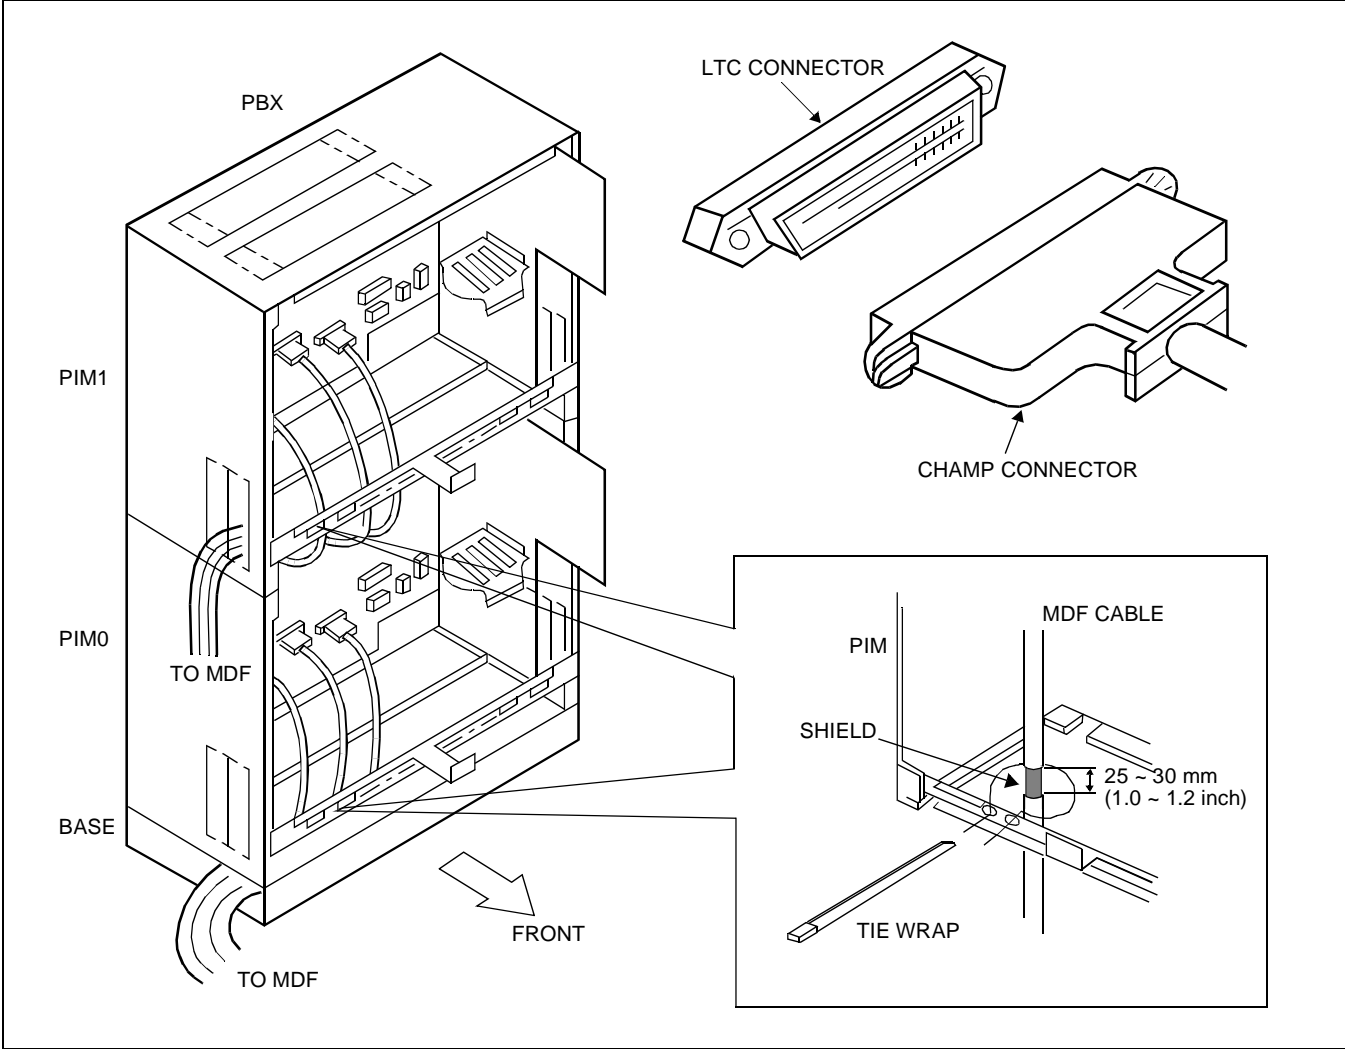

Figure 006-4 Cable Running to the External MDF (2 of 2)
- (c) Connect the champ connector of each MDF cable to an LTC connector located on a PIM using the screws provided, as shown in Figure 006-4.
- (d) Pare the sheath of each MDF cable and secure the shield to the front bracket on the PIM using tie wraps, as shown in Figure 006-4.